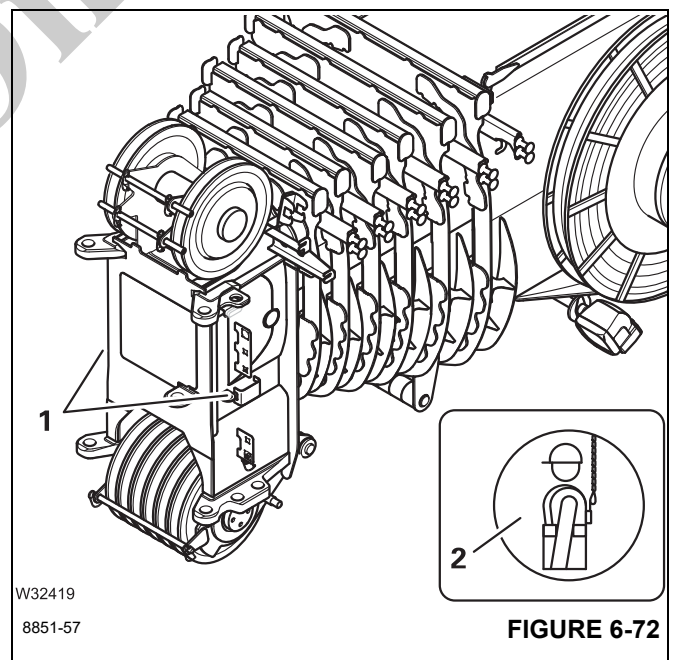

FIGURE 6-72
The approved slinging points for personal protective equipment are marked with special labels (2), (Figure 6-72).
For rigging work on the main boom, always secure yourself using the slinging points (1), (Figure 6-72) and your personal protective equipment harness.